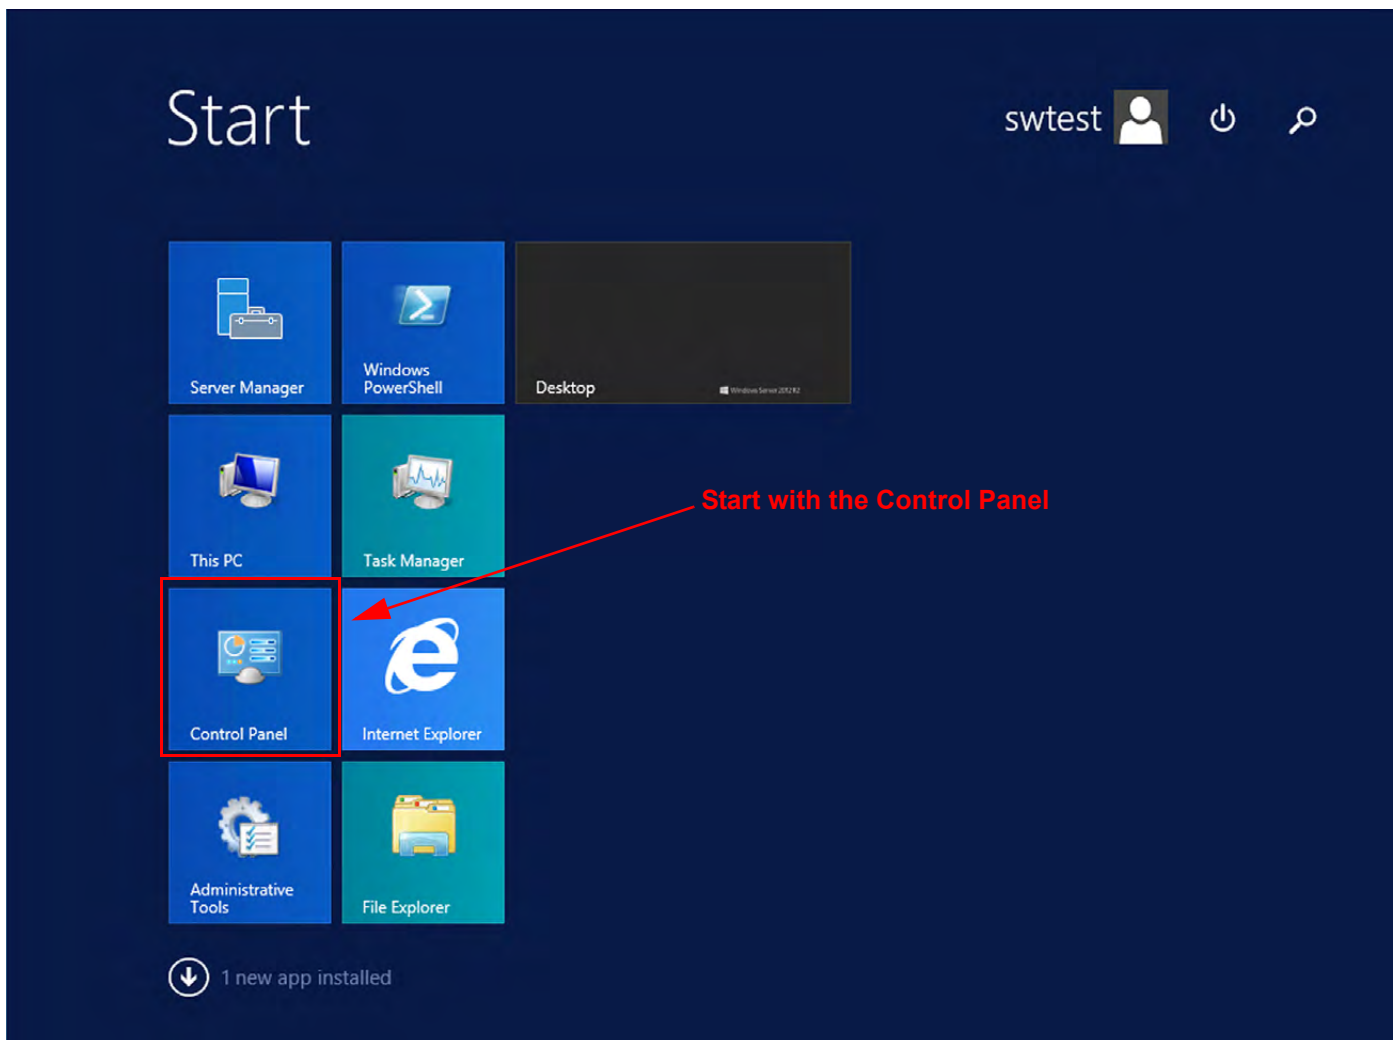

Figure 3.1: Windows Server 2012: Start Menu -> Control Panel
1. Open the Control Panel. See Figure 3.1.